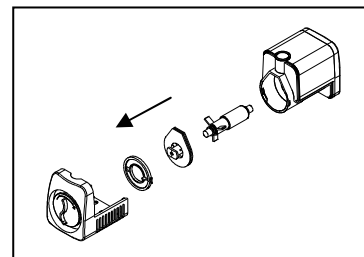

Fig. 12
8. Disassemble the pump, clean parts of the pump in warm, soapy water then reassemble the pump. Fig. 12